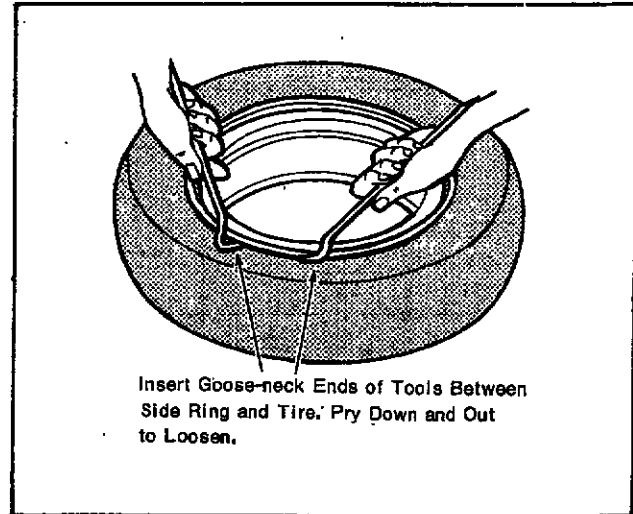

Figure 14
1. Drive the goose-neck end of two TO-399 tools between the side ring and side wall of the tire about 5" (127 mm) apart. Pry down and out in an arc of about 70 degrees. Leave one tool in position and place second tool about 5" (127 mm) beyond. Repeat this procedure in successive steps until the bead is broken loose from tire. (See Fig. 14).